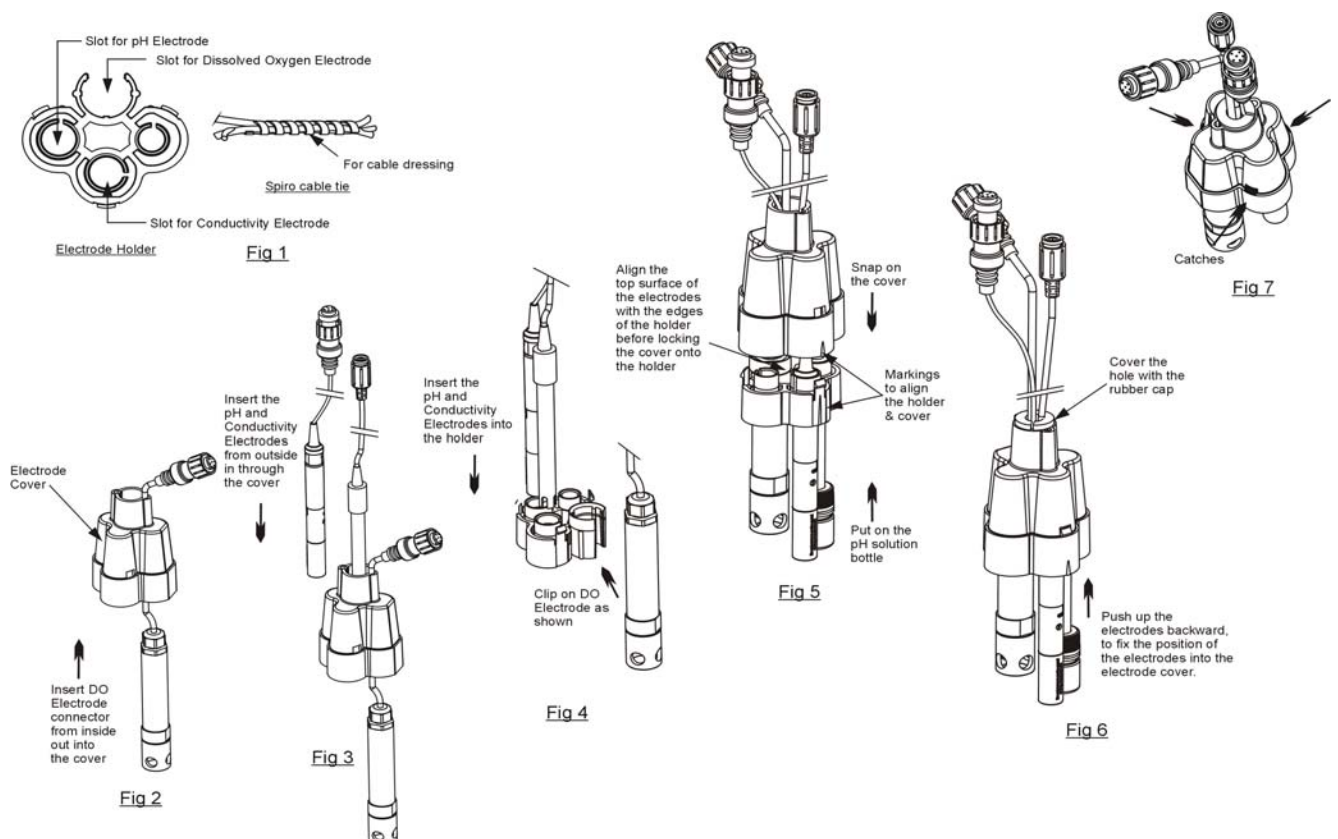

Figure 9: Using multi probe holder
Multi probe holder provides a convenient means to hold pH, conductivity and DO probes together. Refer 'Figure 9: Using multi probe holder' on page 9 to know how to assemble electrodes (pH, conductivity and DO) into the electrode holder.
2. Clip DO electrode into the holder as shown in Figure 9.
3. Insert the probes into the multi probe holder as shown in Figure 9. After assembling the electrodes into the electrode holder, ensure that the electrode top surfaces are almost level to the edges of the holder.